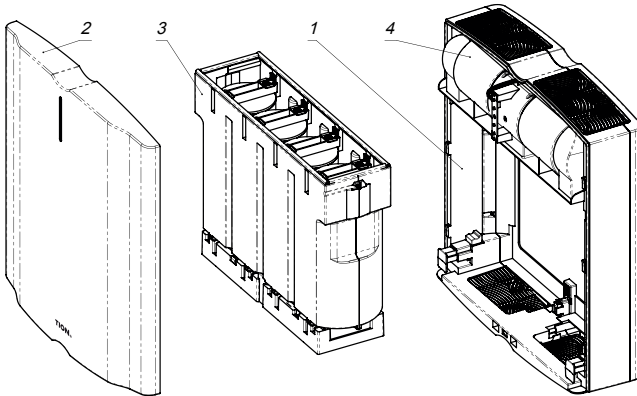

Figure 1. Construction of Tion Clever air purifier-decontaminator
Figure 1 outlines the construction of the Tion Clever air purifier-decontaminator. The device consists of casing (Figure 1, Pos. 1) with detachable lid (Figure 1, Pos. 2), filtering unit (Figure 1, Pos. 3) and fan (Figure 1, Pos. 4).
The air purifier-decontaminator Tion Clever operates in the 100% air recycling mode. The air is taken through the inlet opening grid and passed through the filtering unit (Figure 1, Pos. 3), which traps all mechanical and chemical impurities and inactivates (destroys) all types of microflora (including mold spores), then the purified air is fed back to the room through the outlet.
- Lift the lid (Figure 1, Pos. 2) and remove the filtering unit (Figure 1, Pos. 3) (pp. 1 – 3 of Section 8.1.1);